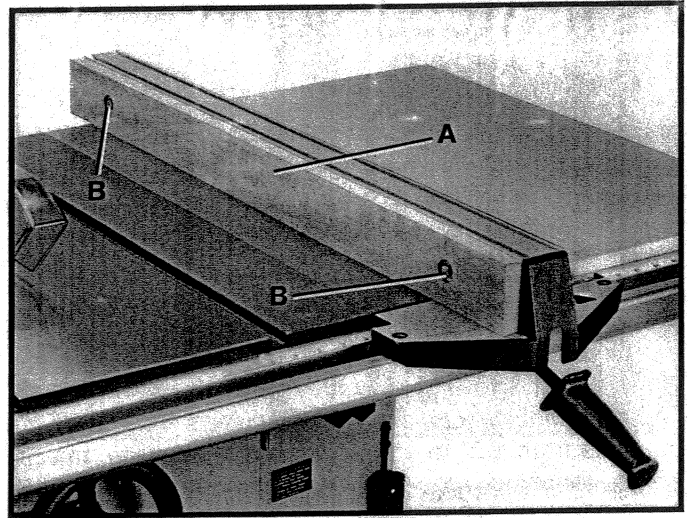

Fig. 94
It is necessary when performing special operations such as moulding to add wood facing (A) Fig. 94, to one or both sides of the rip fence, as shown. The wood facing is attached to the fence with wood screws (B), countersunk and assembled through the holes provided in the fence. 3/4 inch stock is suitable for most work although an occasional job may require 1 inch facing.